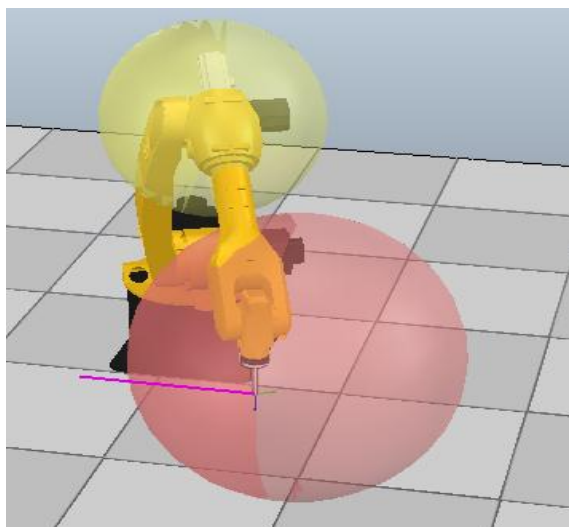

Figure 6-77 When the robot is in the stop buffer or prohibited zone
- Step5.** After clearing the warning message in Figure 6-78, power on and continue to control the robot to move outside the prohibited zone (see Figure 6-77). When the J5 "Axis Envelope" boundary is detected to already enter the prohibited zone, the warning message shown in Figure 6-79 will appear. After clearing the warning message, power on and continue to move the robot, and "Tool Envelope" boundary will be detected to start to enter the stop buffer. Then a warning will be sent, as shown in Figure 6-80.
- Step6.** When the robot is already in the stop buffer or prohibited zone (see Figure 6-77), if you want to move the robot out of the zone, you should keep in mind: when the enable of the prohibited zone is not canceled, it is not allowed to move the robot through running the program in T1 mode, otherwise the system will send a warning; it is only allowed to move the robot through manual JOG. In T2 and AUT modes, it is not allowed to move the robot in any way, otherwise the system will send a warning; when the enable of the prohibited zone is canceled, it is allowed to move the robot out of the zone through manual JOG and running the program.